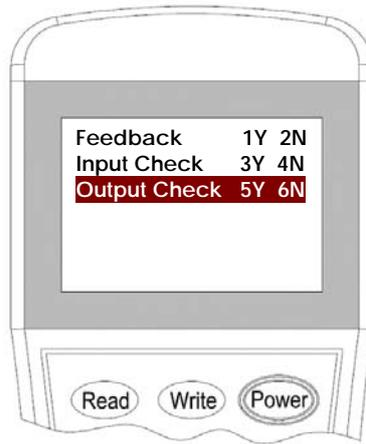

Figure 11
4. Input the **"5"** for Check mode then press **"Write"** to change the setting (Figure 11).